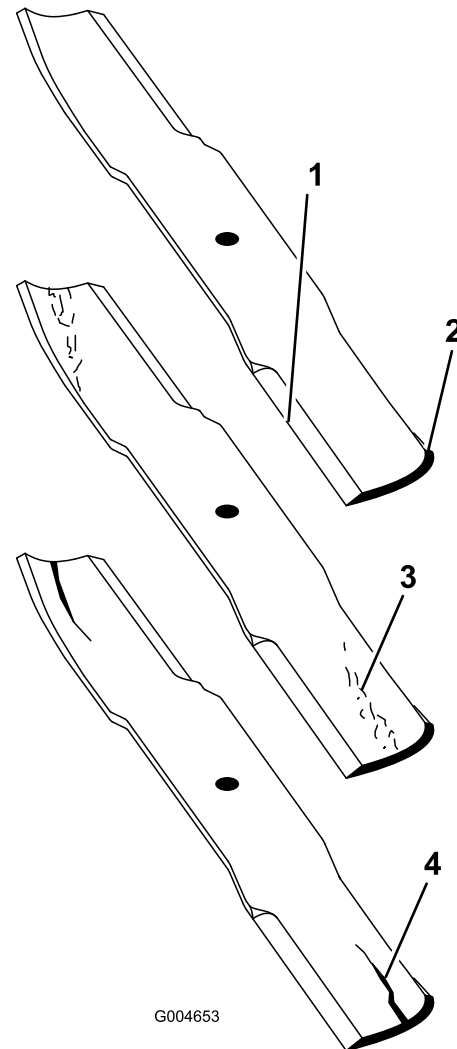

Figure 79
3. Examine the cutting ends of the blade carefully, especially where the flat and curved parts of the blade meet (Figure 79).
**Note:** Since sand and abrasive material can wear away the metal that connects the flat and curved parts of the blade, check the blade before using the mower. If wear is noticed (Figure 79), replace the blade.